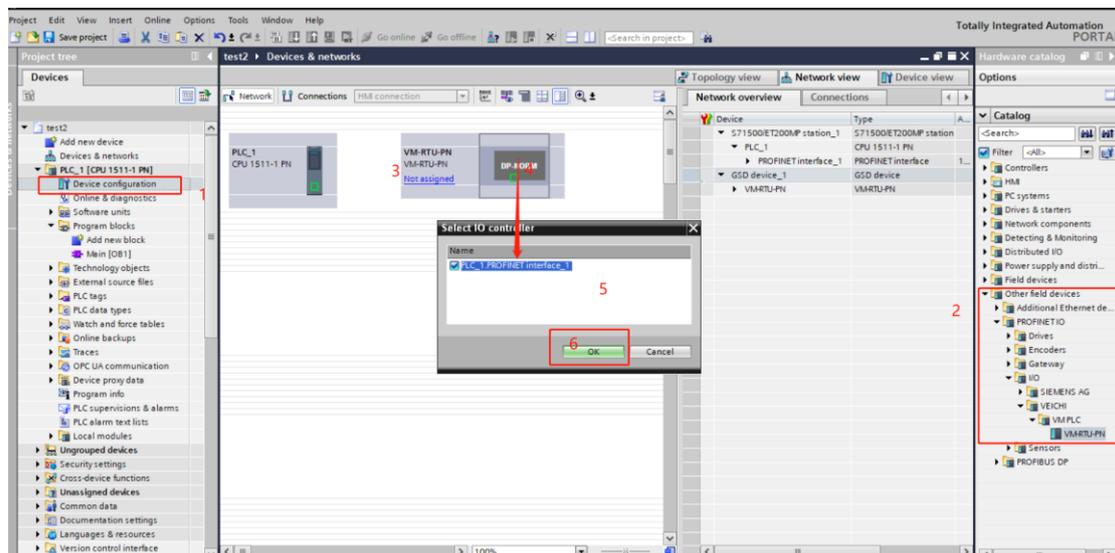

Figure 4 PN device configuration
1. Add VM-RTU-PN device configuration and connect the configuration as shown in Figure 4: